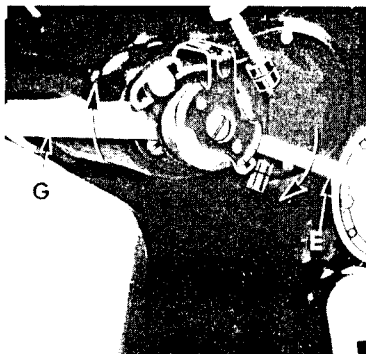

Fig. 28
**SETTINGS:** Bight control lever **E** at **lowest** point and position lever **G** at **highest** point, as shown in Fig. 28.